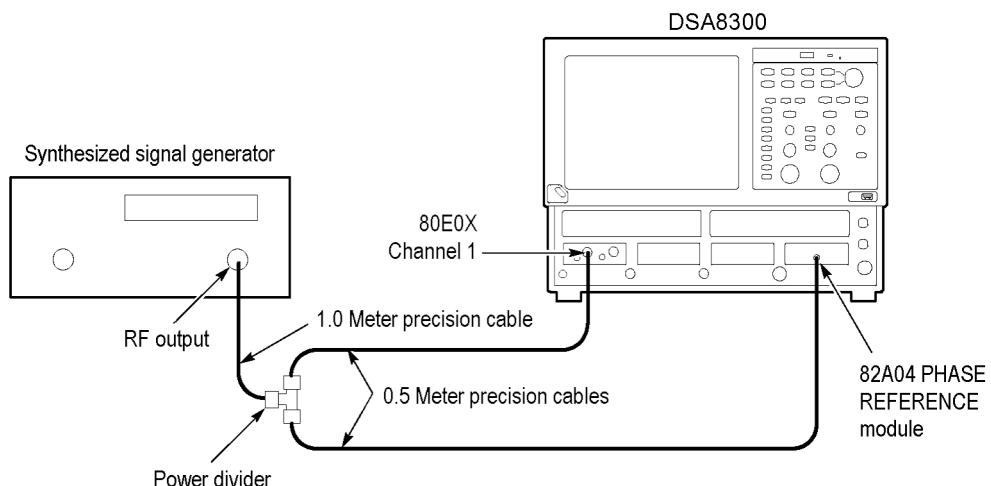

Figure 13: Phase corrected untriggered jitter test setup
3. Connect the test equipment (See Figure 13.)